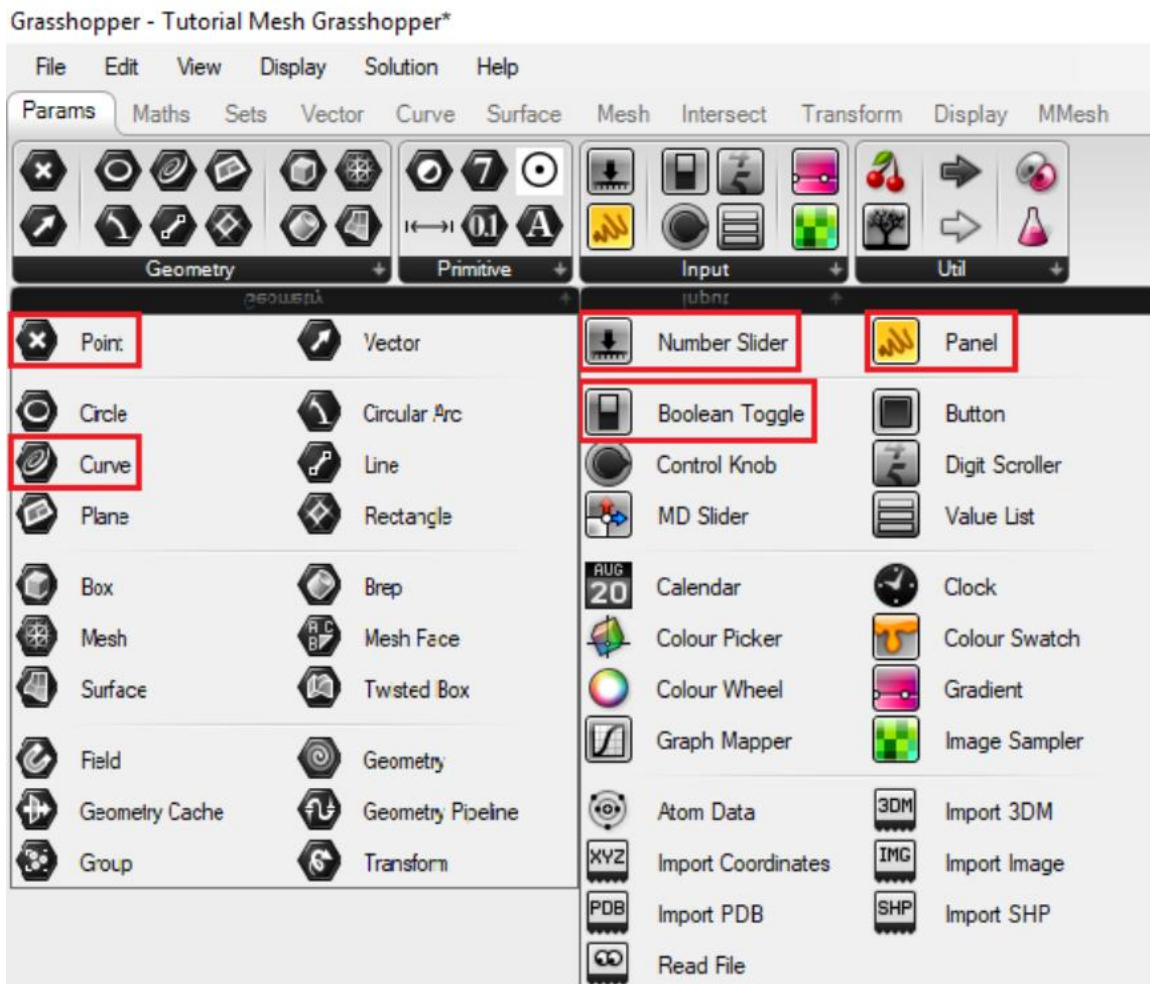

Figure 5. Grasshopper components used to create the finite-element mesh.
In order to complete the mesh, additional components are needed: one (1) "Panel", five (5) "Number Sliders", one (1) "Boolean Toggle", one (1) "Curve", one (1) "Point", and one (1) "Merge". All of these components, except for the "Merge" component, can be found on the "Params" tab under the "Geometry" or "Input" groups (Figure 5).